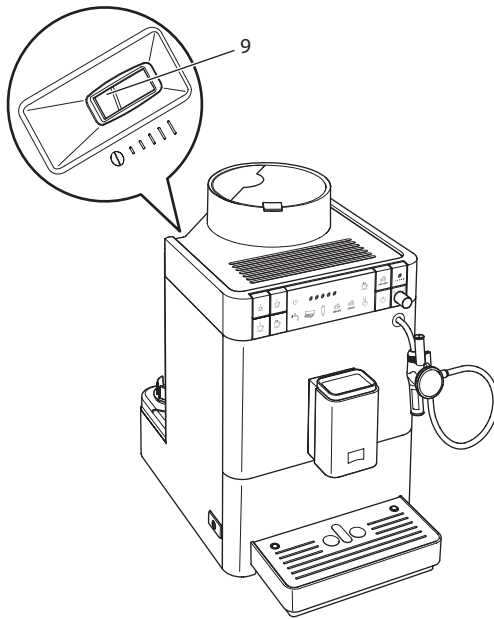

Fig. 13: Lever for setting the grinding fineness
- » The "Grinding fineness adjustment" lever (9) is visible on the housing.
2. Move the lever to the left or right, as shown on Fig. 13.